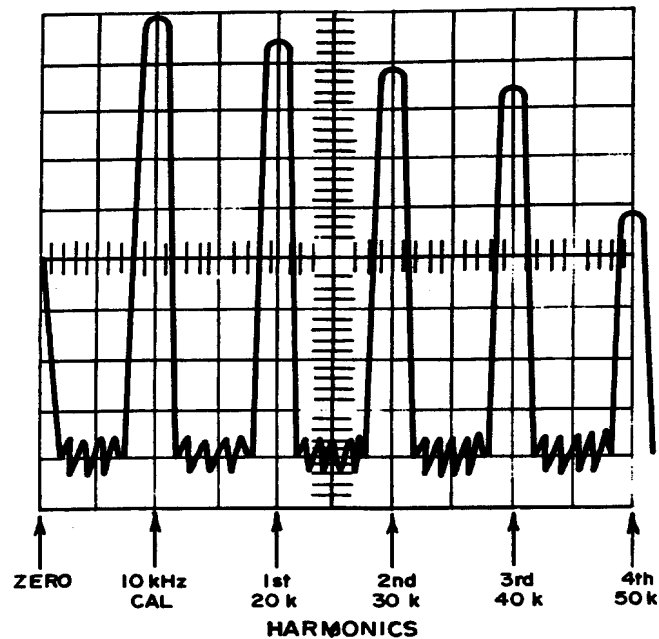

Figure 2. Display accuracy.
(1) Position controls as listed in (a) through (f) below:
(2) The **10 kHz CAL** signal and its harmonics should be repetitively swept and appear on display as shown in figure 2. Separation between zero response and 50 kHz harmonic will be 10 major divisions \pm 1 minor division, or any two adjacent signals will be 2 major divisions \pm 0.2 minor division.